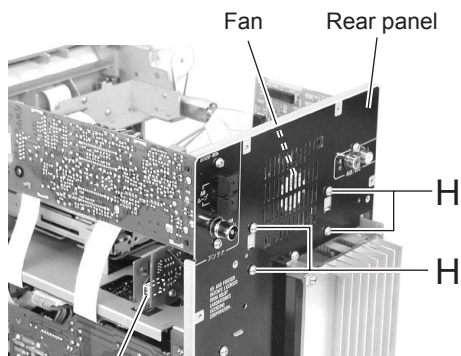

Fig.14
2.1.6 Removing the fan (See Fig.14 to 16.)